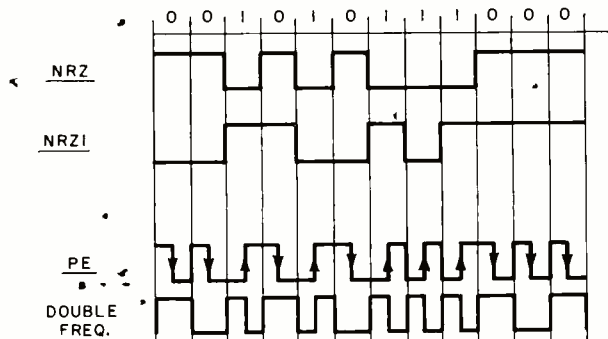

Fig. 4. Various methods of recording information bits.
The methods used to give bits of data coded significance are generally separated into non-return-to-zero (NRZ) and phase-coded methods (PE). In NRZ, the medium is either magnetized in one direction or the other of flux saturation. In the straight NRZ method of recording (Fig. 4), a flux transition indicates a change in bit significance; in a modified version called NRZI (for "inverted"), flux transitions are considered to be 1 bits; the lack of flux transition is thought of as 0 bits. Included in the recording methods shown is the phase-encoded method of recording (PE), where downward transitions are 0 bits, upward transitions are 1 bits. Whereas NRZI is preferred over NRZ because, in NRZI, each flux transition is indicative of a 1-bit, PE is preferred over both because at least one flux transition is assured per bit period. However, PE could require up to twice as many transitions to store the same amount of data as NRZ. Double-frequency recording is still another method. It includes one flux change for a 0 and two flux changes for a 1; direction is not important. Thus, the method chosen to record data can affect the "format" of that data.